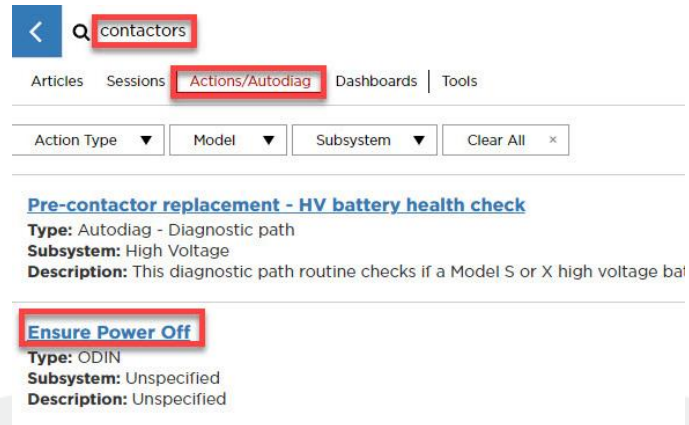

Figure 1
6. In Toolbox, select the **Actions/Autodiag** tab, type “contactors” into the search field, and click **Ensure Power Off** (Figure 1).